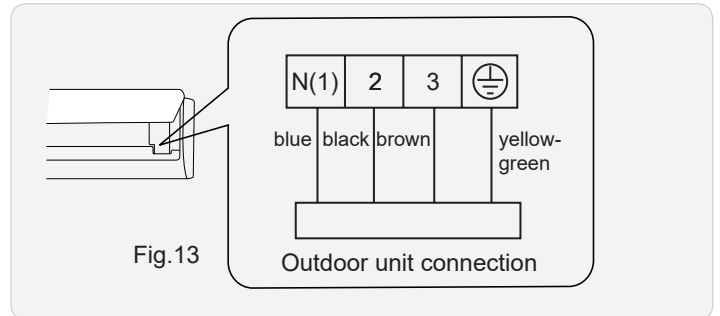

Fig.13
- (3) Remove the wire clip; connect the power connection wire signal control wire (only for cooling and heating unit) to the wiring terminal according to the color; tighten the screw and then the power connection wire with wire clip.(As show in Fig.13)